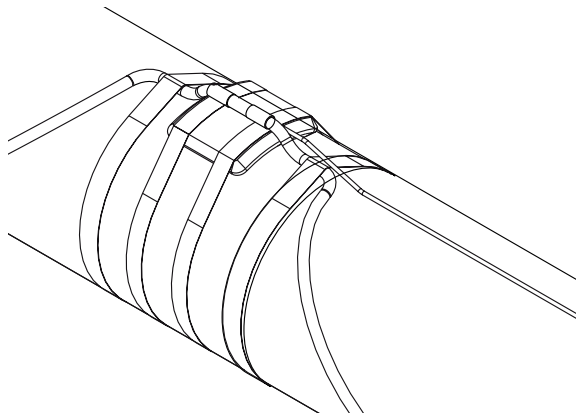

Figure 7: Artificial hot-spot
- The correct position is on top of the pipe. See Figure 7.